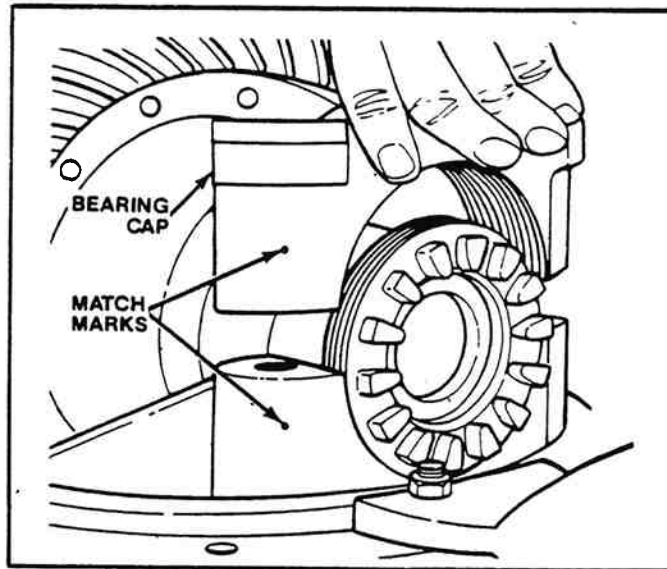

Figure 2-76. Installing Bearing Caps.
7. Install the bearing caps over the bearings and adjusting rings in the correct location as marked before removal (Figure 2-76).